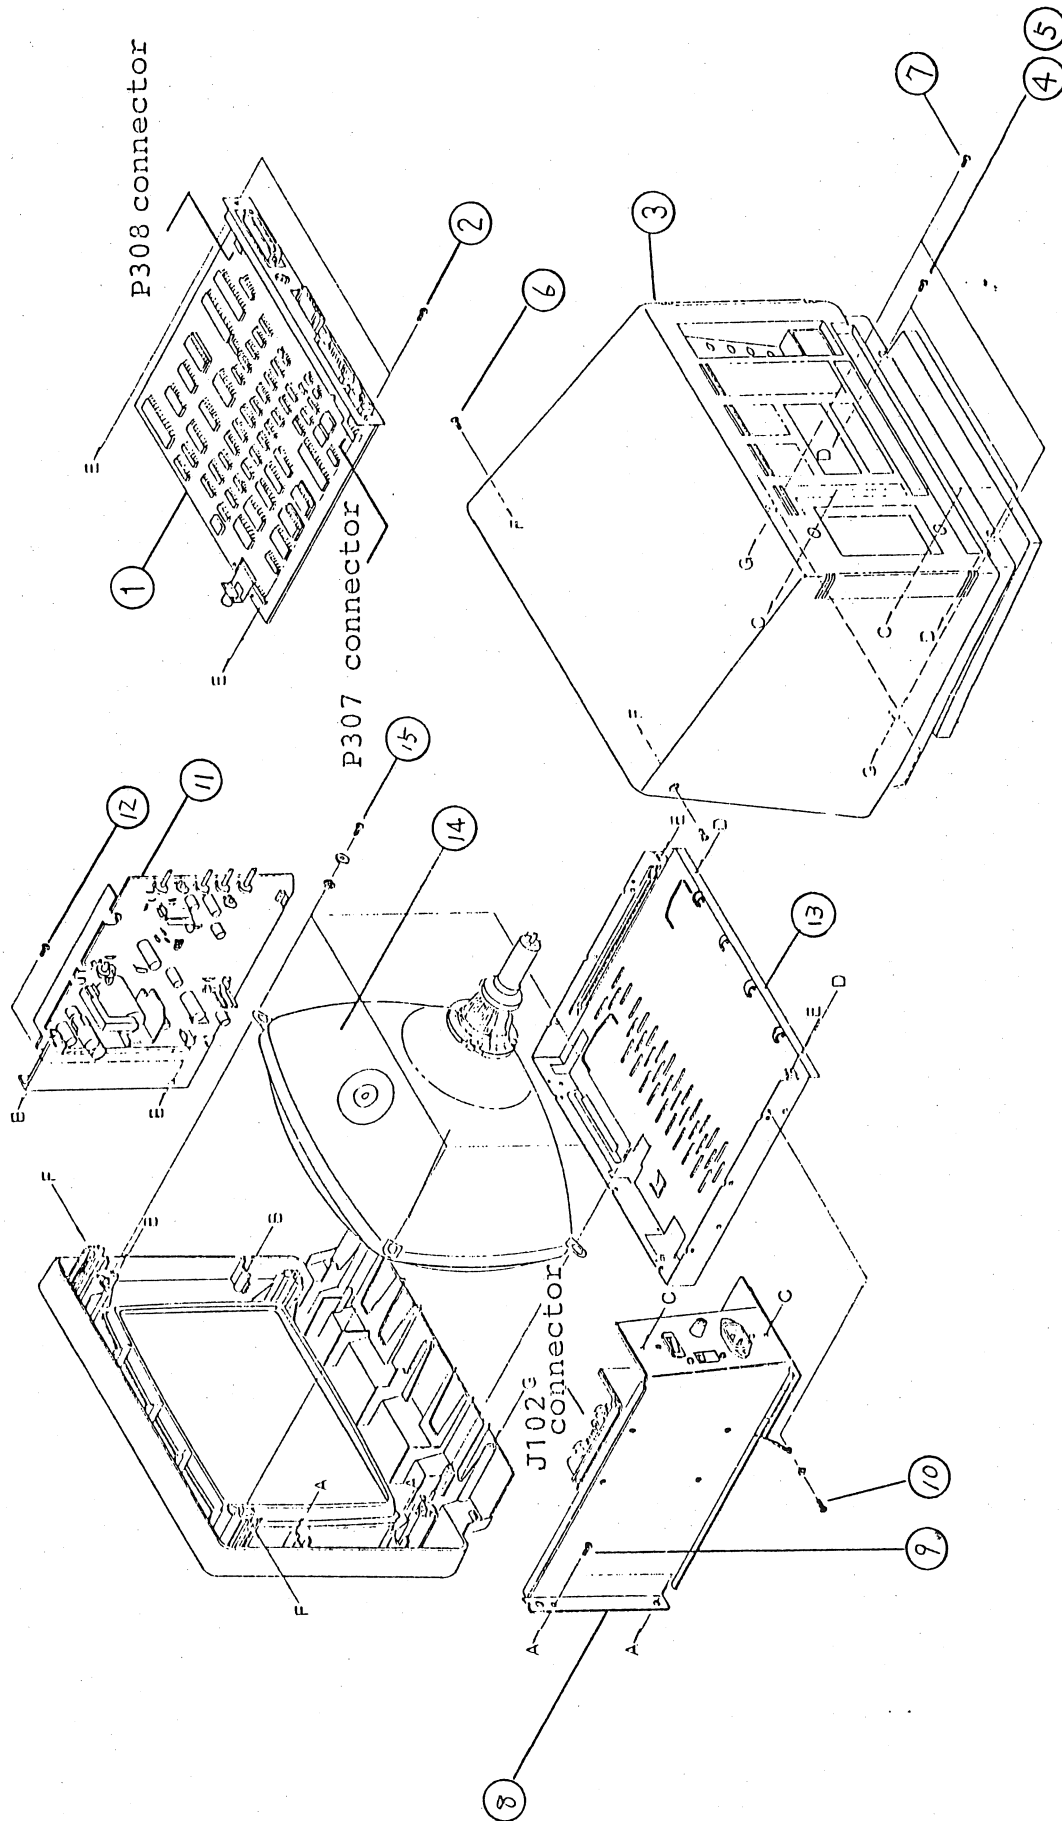

Fig. 6-1-1 Display Unit Disassembly Diagram
Fig. 6-1-1 shows the disassembly diagram of display unit DP-920.
- (4) Remove the two tapping screws (Part A: No. 9). (See Fig. 6-1-1.)
- (5) Remove the tapping screw (No. 10). (See Fig. 6-1-1.)